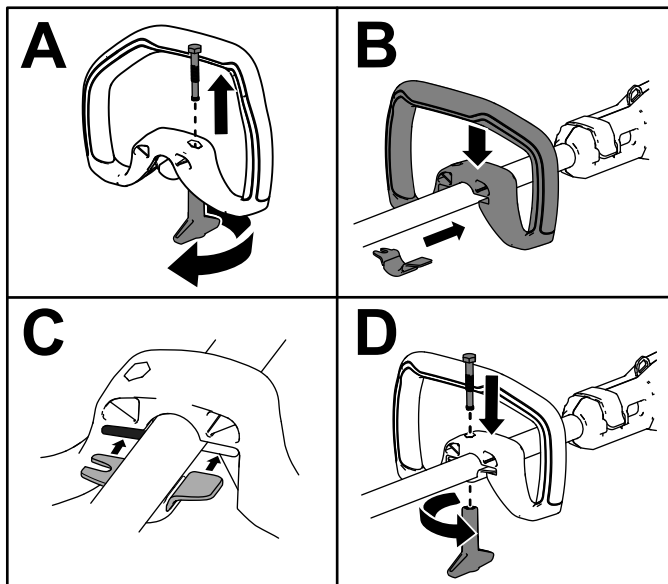

Figure 4
1. Separate the auxiliary handle from the handle bracket by unscrewing the handle-lock knob and removing the bolt (A of Figure 4).
2. Align the handle bracket with the auxiliary handle (B of Figure 4).
3. Slide the handle bracket into the slot on the auxiliary handle (C of Figure 4).
4. Secure the lower handle bracket to the auxiliary handle with the handle-lock knob and the previously removed bolt (D of Figure 4).